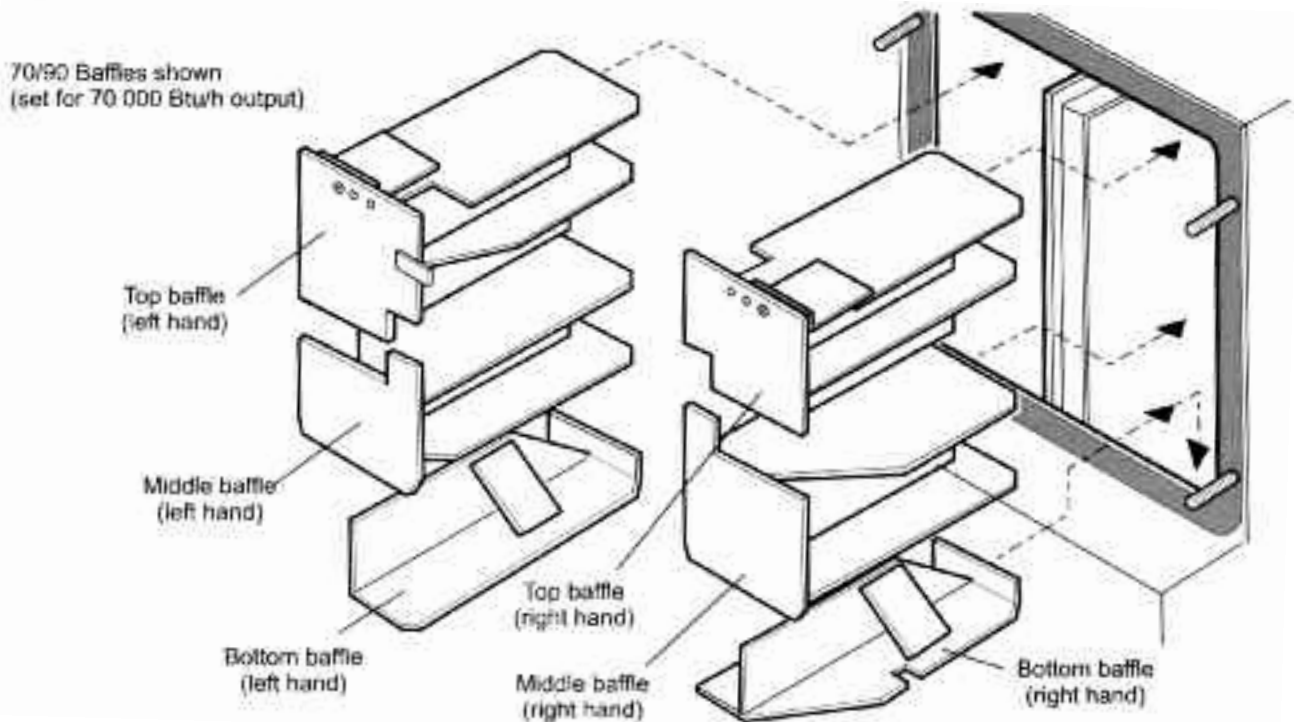

Fig 23
- 2 Remove the baffles as shown in Fig. 23 (baffles shown for 70/90 model). Refer to Figs. 27 to 30 for other baffle configurations.
- 6 Replace the baffles, ensuring they are correctly fitted. See Fig. 23.